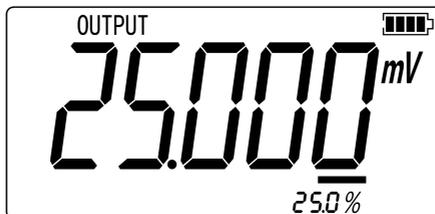

Figure 2.1-5
9. Press or to step between 0 and 100% in 25% step increments. The screen will display as shown in Figure 2.1-5.